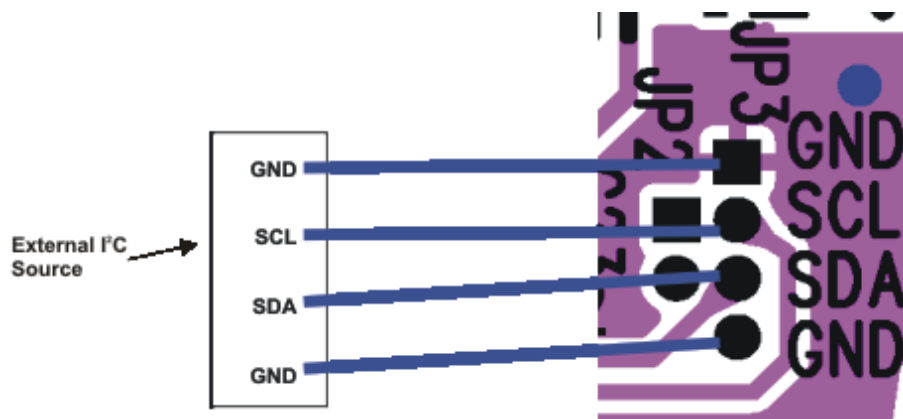

Figure 5. Connect I²C Controls to JP3
3. Remove shunts between JP2 and JP3 and connect I²C controls to JP3 as shown in Figure 5.